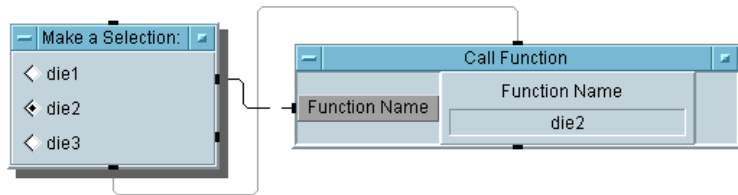

Figure 268 The Dice Program (Detail View)
- 11 Click **Device** ⇒ **Call**. Select **Add Terminal** ⇒ **Control Input**, then select Function Name, and click **OK**. The Function Name control pin accepts an Enum or Text value as input. Connect the Radio Buttons data output pin to the Function Name input terminal on the Call Function object. Connect the Radio Buttons sequence out pin to the sequence in pin of Call Function. Click on **die2** in **Make a Selection**: and notice that the **Call Function Name** changes to **die2**, as shown in Figure 268.